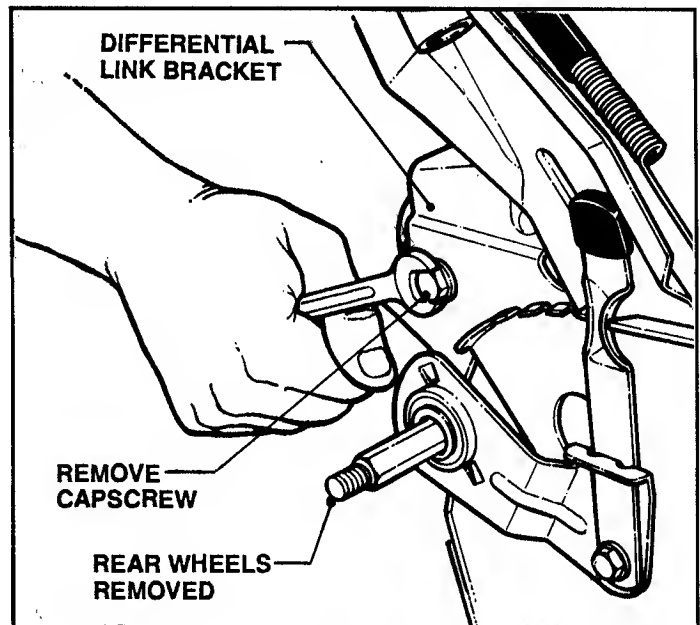

FIGURE 4.1
1. Remove cap screw securing differential link bracket. See Figure 4.1.